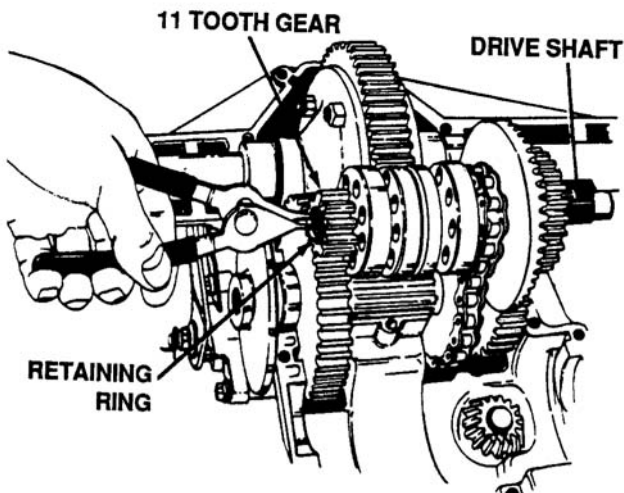

Figure 5-40. Removing Snap Ring
- Remove the heavy duty retaining ring (snap ring) and washer from drive shaft at 11-tooth low gear. Remove gear and inspect for wear. Replace if necessary. See Figure 5-40.